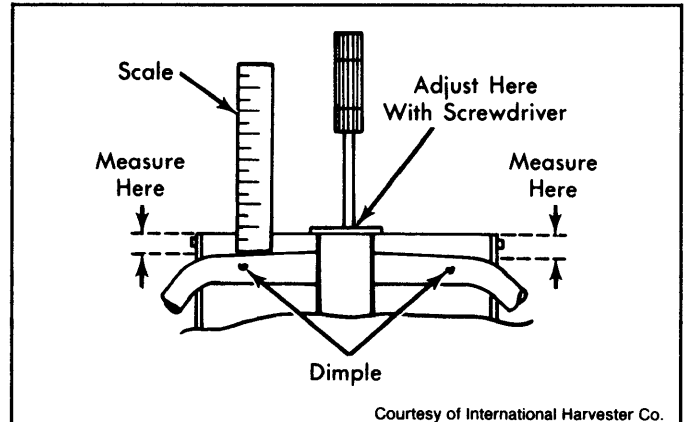

Fig. 18: Adjusting Metering Rods
2) Position a scale with edge in line with dimple in metering rod arm. See Fig. 18. Measure metering rod specified distance from top of carburetor to top of piston link.